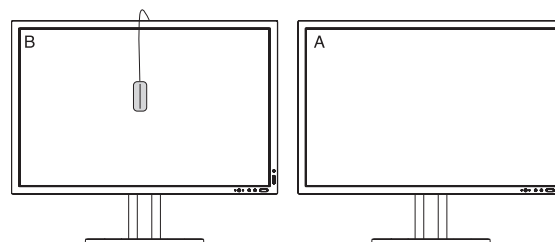

Figure C.2
7. When you want to confirm the white point of Display B, remove USB color sensor from source Display A and place in the center of Display B (**Figure C.2**). To skip the white point confirmation, Display B, press "SELECT" to step 9 for FINE TUNING.